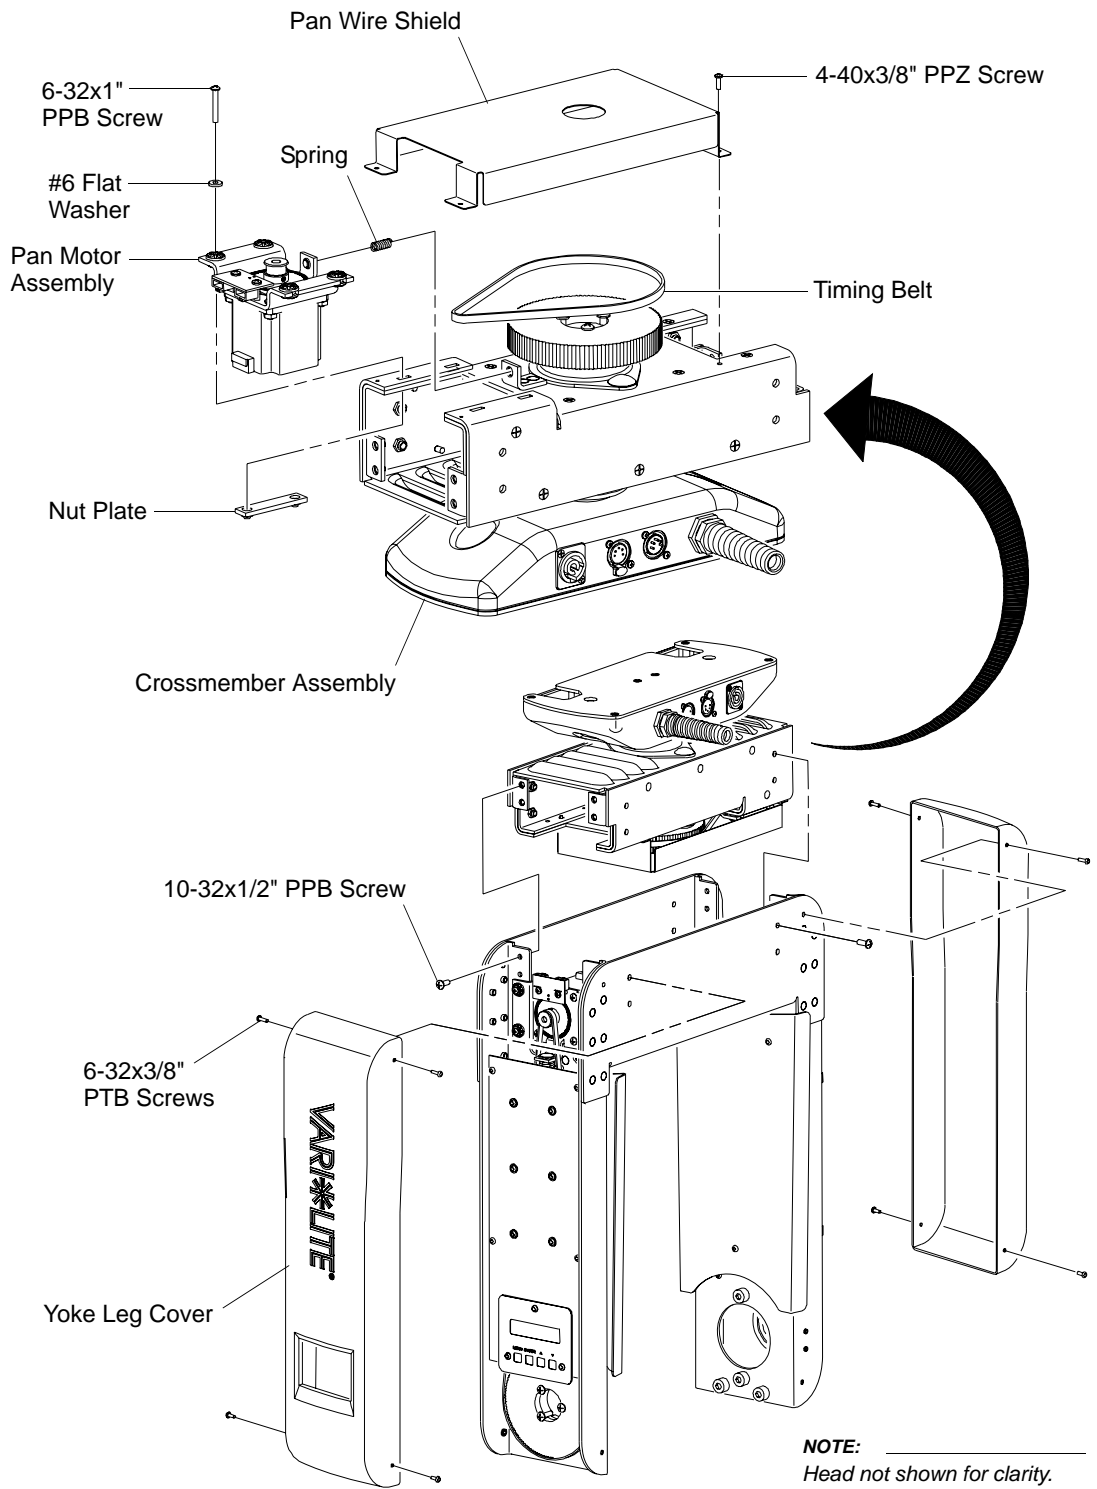

Figure 2-27: Pan Motor Assembly Replacement
- Step 2. Remove yoke leg covers by removing four 6-32x3/8" PTB screws on each side (Figure 2-27).